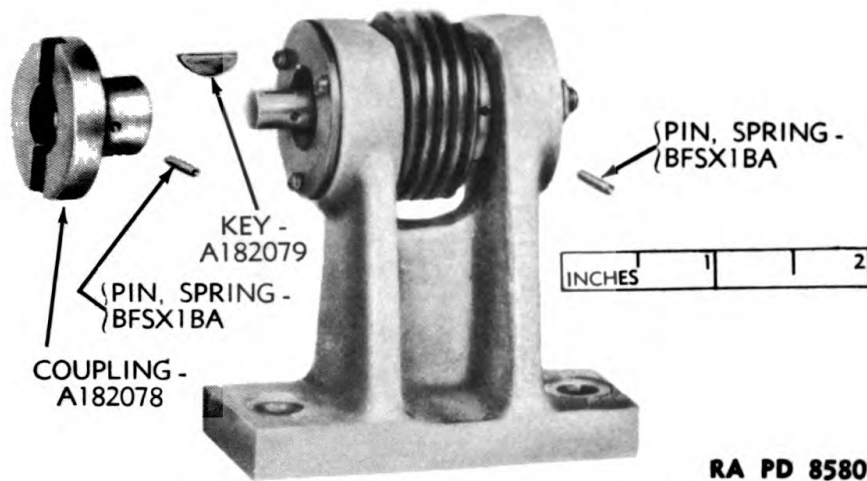

Figure 112 – Disassembling the Worm Drive
c. Figures 112 and 113 show the method of disassembly. It may be advisable to replace cork washer A182083 to prevent endwise flutter of the worm.